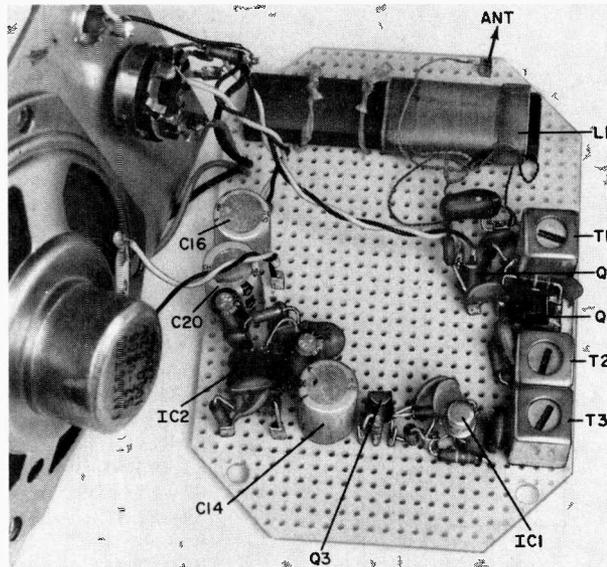

Fig. 2. Follow parts layout shown in photo to minimize the chance of oscillations occurring.
**Construction.** The entire receiver can be assembled on a 3 $\frac{3}{4}$ -in. by 2 $\frac{5}{8}$ -in. piece of perforated board with holes spaced on 0.1-in. centers. Parts placement is not critical, but the general layout shown in Fig. 2 should be followed to avoid oscillations.
All components are mounted on the metal plate of the utility box. Hence, you must drill a number of holes through the plate to allow the speaker's sound to escape. Also, four holes are needed for speaker and board assembly mounting, and mounting must be made for sensitivity control  $R_6$  and antenna jack  $J_1$ . Although a 2 $\frac{1}{2}$ -in. speaker is shown in Fig. 2, a smaller speaker would leave enough panel space for three access holes over the slugs of the i-f transformers to facilitate tuning. Use three spacers and appropriate hardware to mount the speaker and board assembly on the metal plate. The battery can be sandwiched between the spacer and the wall of the utility box to keep it firmly in place.